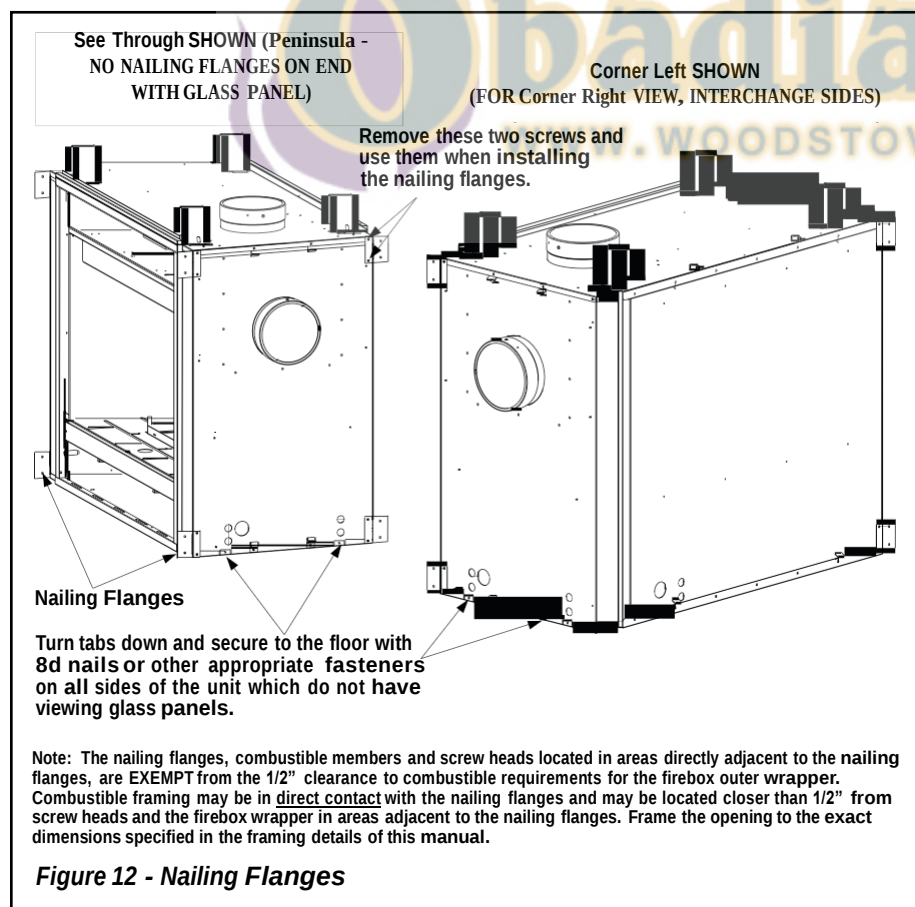

Figure 12 - Nailing Flanges
****Note:** See Page 10, Step 1 and Figure 12 for clearance requirements to the nailing flange located at each side of the unit and any screw heads adjacent to it.
Step 1. (Page 12) Construct the appliance framing. Position the appliance within the framing and secure with nailing brackets (refer to Figure 12).
The fireplace should be secured to the framing at the side(s) and/or rear of the unit using the factory-provided nailing flanges. Install the nailing flanges - 8 (DRT40ST), 4 (DRT40PF, DRT40CL and DRT40CR) - as shown in Figure 12 using the existing screws.
Secure the fireplace to the floor as shown in Figure 12.